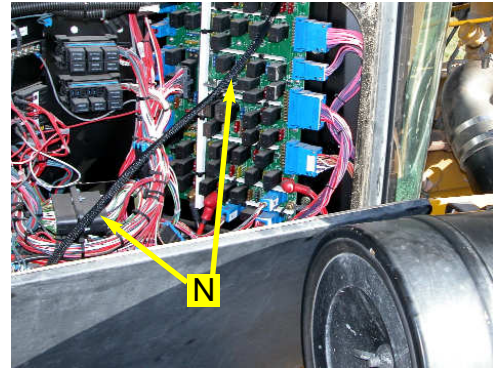

Figure 7a. Valve cable on side of cab.
- a. Remove the shield from the right side of the cab and route the Automated Steering valve cable (N) into the cab. (Figure 7a.)